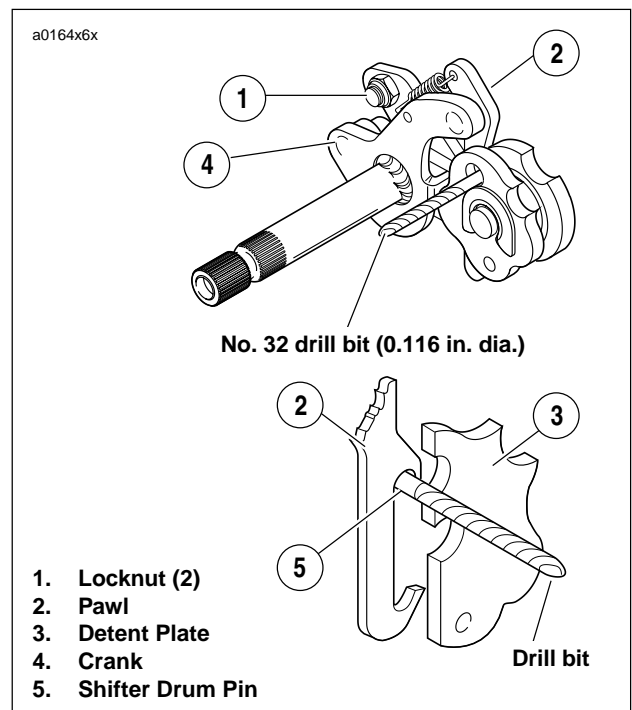

Figure 6-61. Shifter Shaft Assembly Alignment
5. See Figure 6-61. Align shifter shaft.
- b. Place a No. 32 drill bit (0.116 in. dia.) through hole in detent plate (3), and between pawl (2) and drive pin at end of shifter drum shaft.
- c. Push down top of crank (4) to remove all clearance between pawl and drill bit; this will correctly align pawl to shift drum pins (do not push down with too great a force, as this might cause the shifter drum to rotate).
- d. With bit in place, tighten shifter shaft assembly bottom locknut (1) first to 90-110 **in-lbs** (10-12 Nm). Then, tighten shifter shaft assembly top locknut (1) to the same torque.